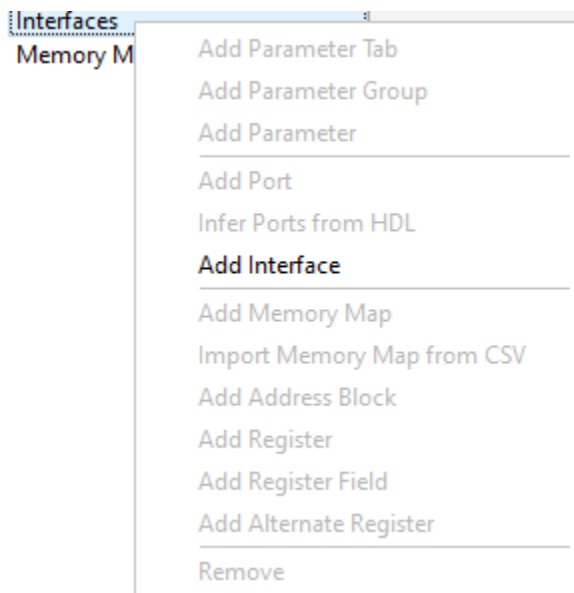

Figure 3.23. Right-click Menu of an Interface
- Right-click **Interfaces** from the Meta Data view, and choose **Add Interface** (Figure 3.23). A new interface **NewInterface1** is created.